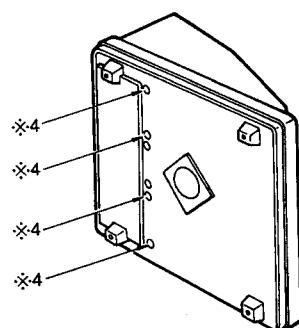

Fig. 41
- (3) Place the unit on its side as illustrated Fig. 41. And loosen the four screws designated "※ 4" two or three turns. (Do not remove these screws.)
Place the unit on its side, and tighten the four "※ 4" screws. [As in Fig. 41]